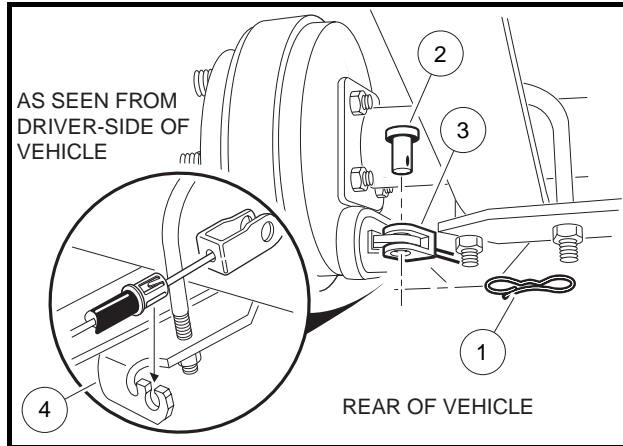
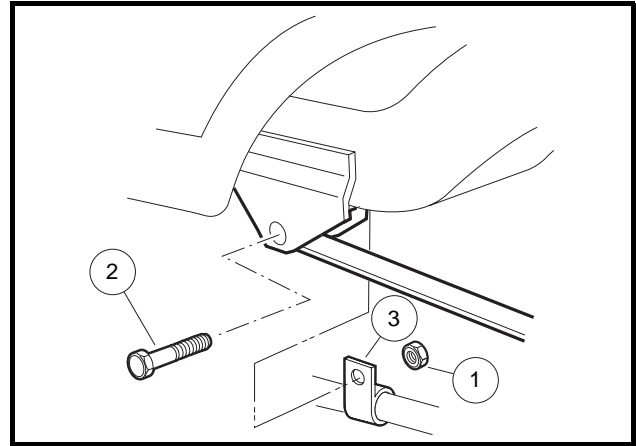

Figure 6-20 Disconnect Cables at Rear Brakes
Figure 6-21 Brake Cable Mounting Tab
6. Rotate the bolt (5) and equalizer bracket (4) to the upright position then slip the cable heads out of the bracket.
7. Remove nut (1) from the bolt (2) that secures front of the leaf spring (**Figure 6-21, Page 6-12**). Do not remove bolt (2).
8. Remove the mounting tab (3) of the brake cable from the bolt.
10. Remove bow tie locking pin (1) and the clevis pin (2) from the brake lever on each wheel and pull the clevis (3) away from the lever. (**Figure 6-20, Page 6-12**).
11. Using brake cable release tool (CCI P/N 102555501), compress the retaining clips on the end of the cable housing enough to slip the cable end out of the bracket (4) and remove the brake cable from the vehicle.
2. Hold the bolt (5) and the equalizer bracket (4) in the upright position and slip the cable head through the hole on top of the bracket. Pivot the equalizer to the horizontal position to capture the cable heads in the equalizer.
3. Insert the rear cable housing into the shock mount bracket (4) (**Figure 6-20, Page 6-12**). Push the cable housing end into the bracket to ensure the clips on the housing end secure the cable in position.
4. At the rear wheel brake, connect the cable to the brake actuator arm using new clevis pin (2) and new bow tie locking pin (1) (**Figure 6-20, Page 6-12**).
5. Place tab (3) on cable housing over the forward leaf spring mounting bolt (2) (**Figure 6-21, Page 6-12**). Install nut (1). Tighten nut to 18.4 ft-lb (25 N·m).